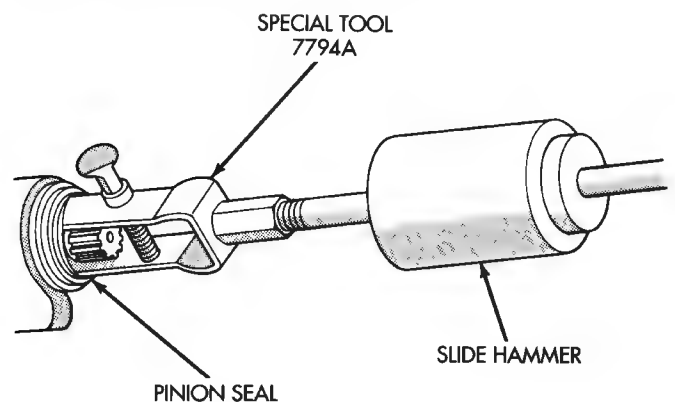

Fig. 3 Seal Removal
(7) Use Remover 7794A and slide hammer to remove the pinion gear seal (Fig. 3).